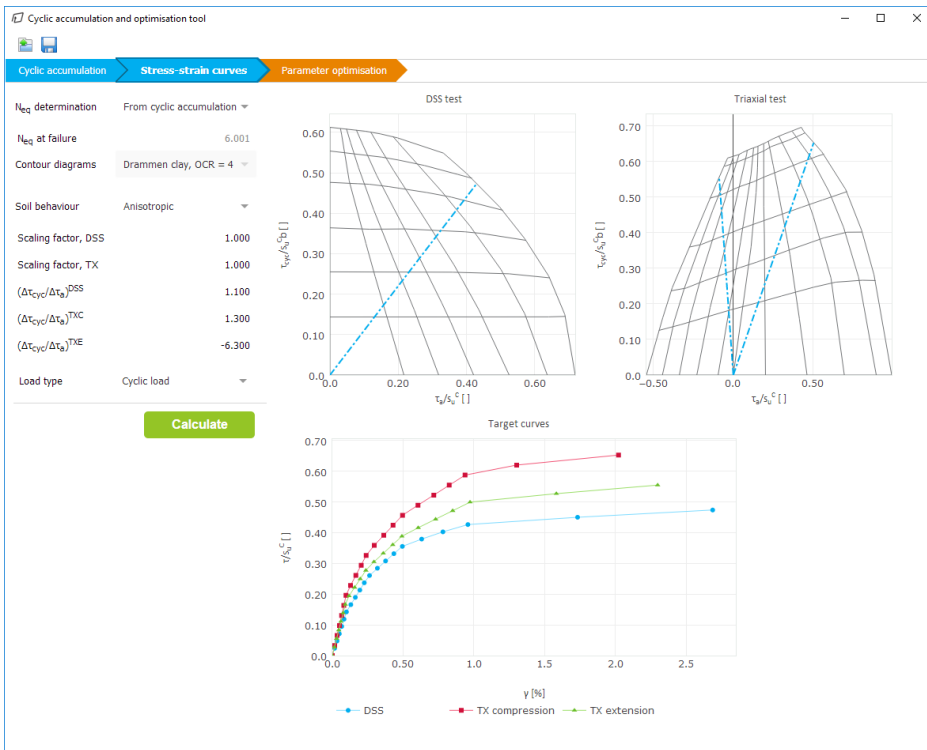

Figure 8.10 Stress-strain curves for cyclic load
- Press *Calculate* and let the calculation finish. The stress-strain curves are shown, see Figure 8.10.